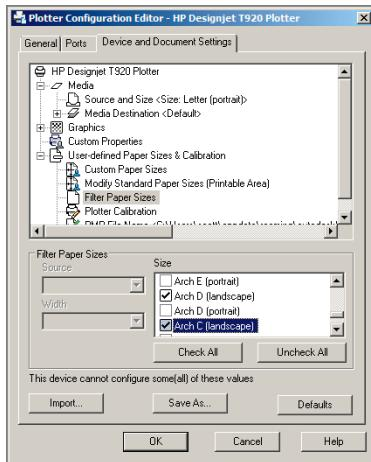

FIGURE 14.2 Filtering out all unused paper sizes
- Select the Device And Document Settings tab, and then select the Filter Paper Sizes node in the Plotter Configuration Editor dialog box that appears. Click the Uncheck All button. Scroll down the list, and select the following paper sizes: Arch C (landscape) and Arch D (landscape). Figure 14.2 shows the result.